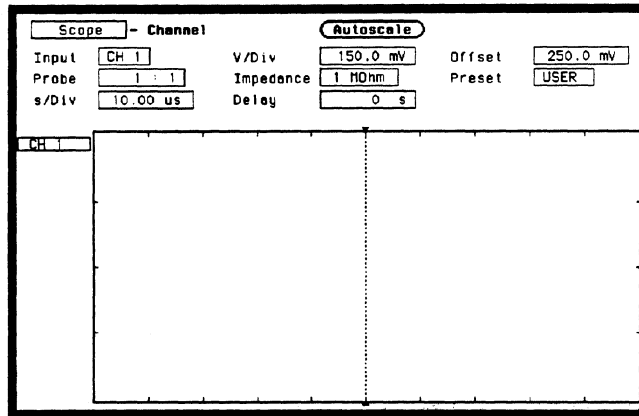

Figure 3-46. Channel Menu Configuration
6. Using the knob and SELECT key, set **Input** to **CH 1**, **Probe** to **1:1**, and **Impedance** to **1 MOhm** as in figure 3-46.
4. Using the knob and **SELECT** key, set **Input** to **CH 1**, **Probe** to **1:1**, and **Impedance** to **1 MOhm** as in the previous test figure 3-46.